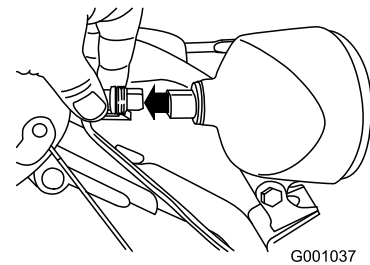

Figure 61
1. Remove the wire connector from the back of the headlight (Figure 61).